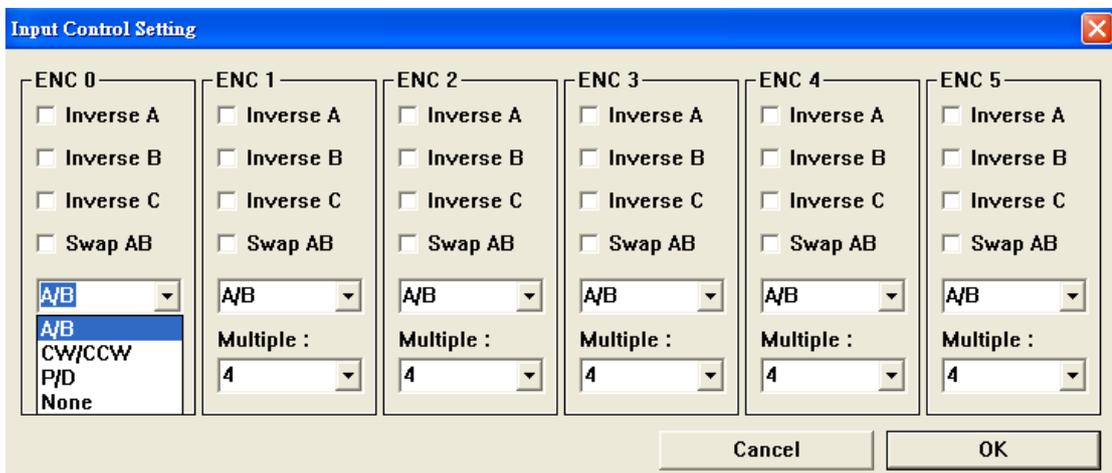

Figure 4-4.1
(1) Set encoder counter input control word (as shown in Figure 4-4.1)